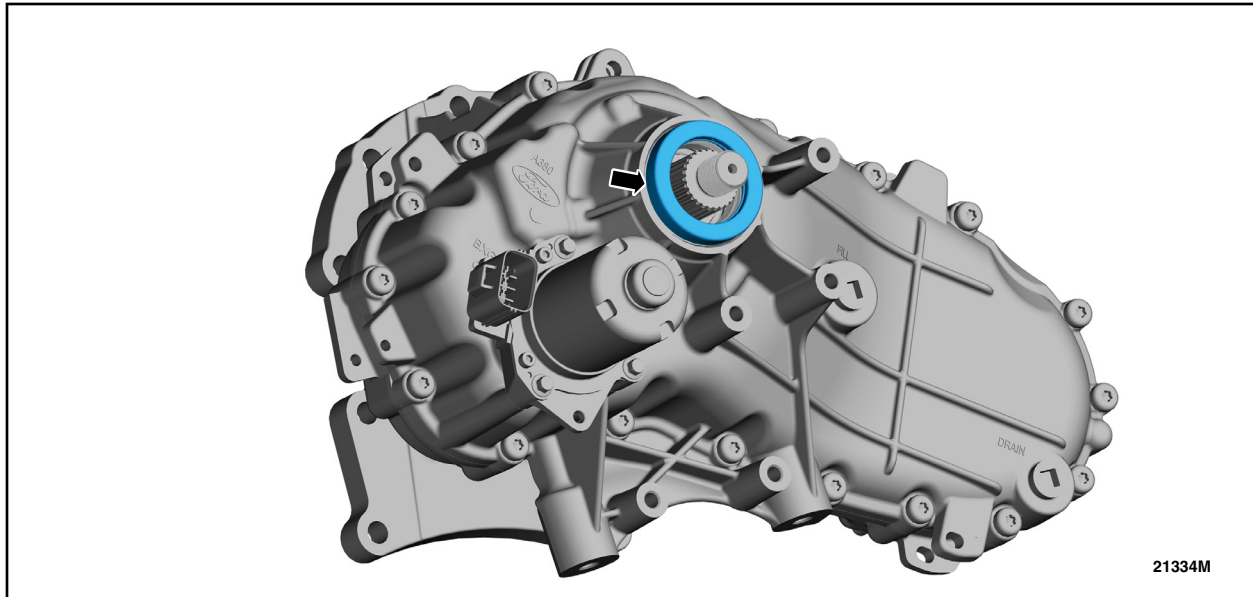

FIGURE 12
23. Remove the transfer case rear output shaft seal dust cover. See Figure 12.